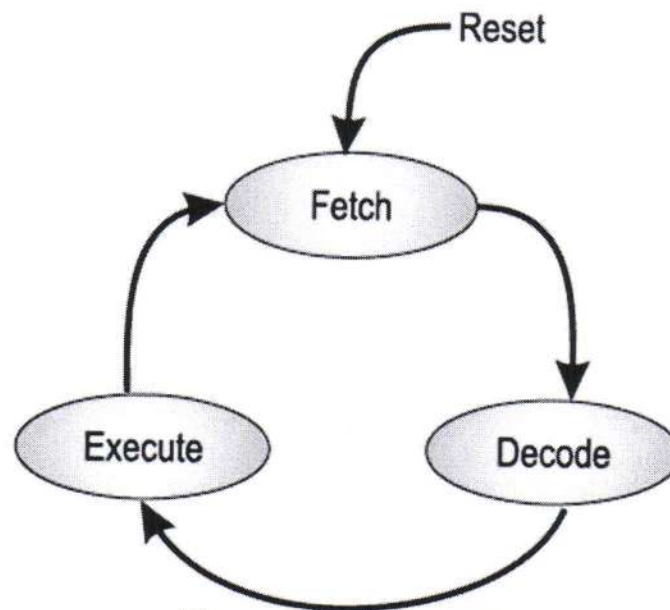

Figure 2.2: States in control unit operation: fetch, decode, and execute
The control unit (CU) governs the CPU operation working like a finite state machine that cycles forever through three states: fetch, decode, and execute, as illustrated in Figure 2.2. This fetch-decode-execute cycle is also known as *instruction cycle* or *CPU cycle*. The complete cycle will generally take several clock cycles, depending on the instruction and operands. It is usually assumed